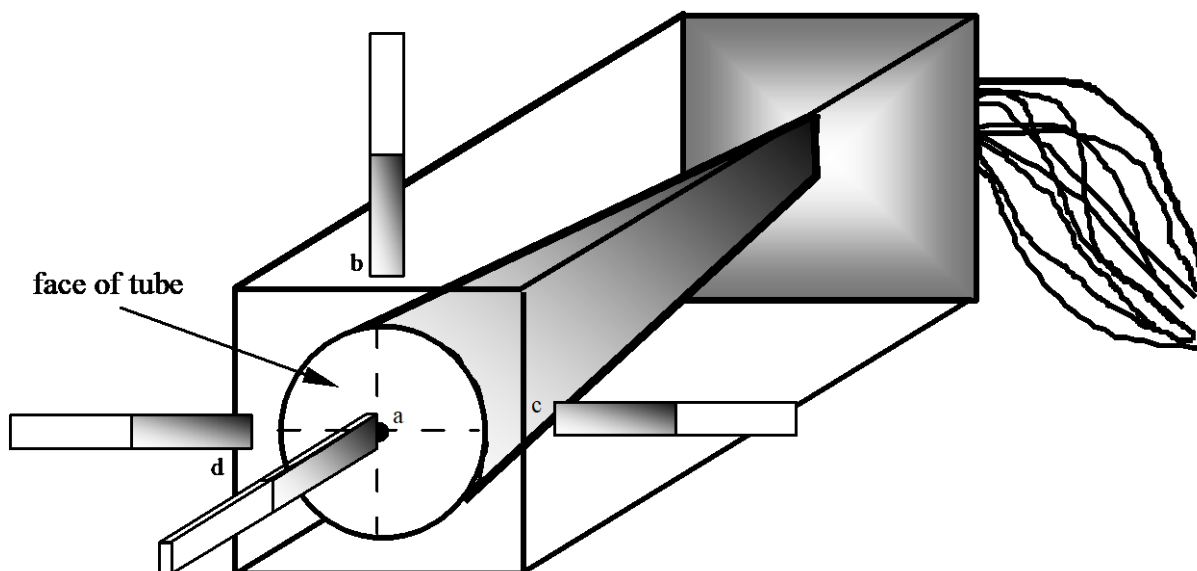

Figure 2. CRT and magnet
A cathode ray tube (CRT) uses a voltage (potential difference) to accelerate electrons to a high velocity. The electrons are accelerated at the back of the tube and then collide with a phosphorescent coating on the face of the tube. Images in most TVs and computer monitors are produced in this manner. Examine the diagram of the CRT in Figure 2 and your answer to Question 6. If you place the north end of the magnet at positions *a*, *b*, *c*, or *d*, which way will the dot move from the center of the screen? What if you use the south end of the magnet?
- For each of the eight magnet orientations specified in the prediction, place a single magnet at the side of the CRT with one end touching the box, as shown in Figure 2. (Be sure to keep the other magnets away from the CRT.)